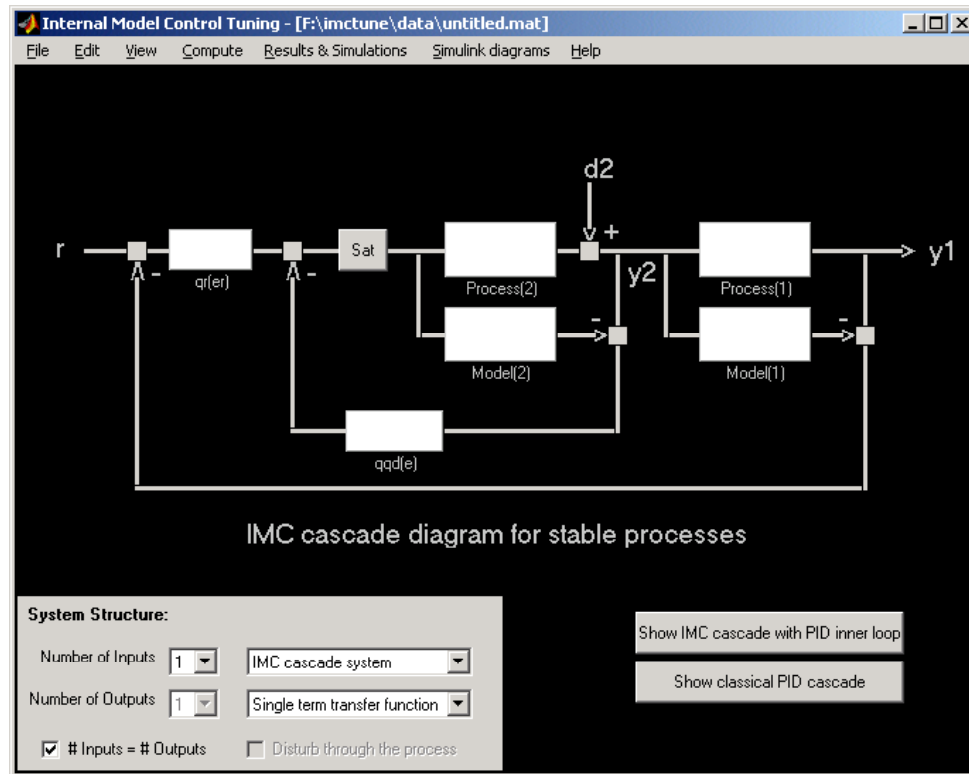
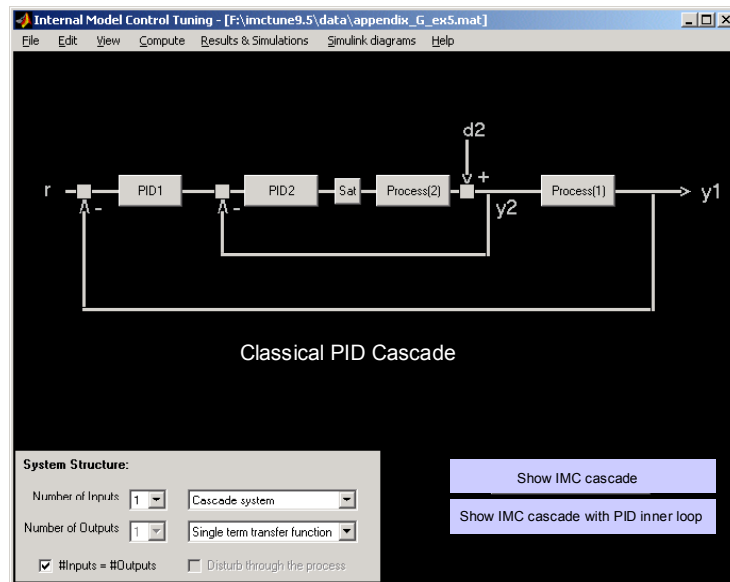
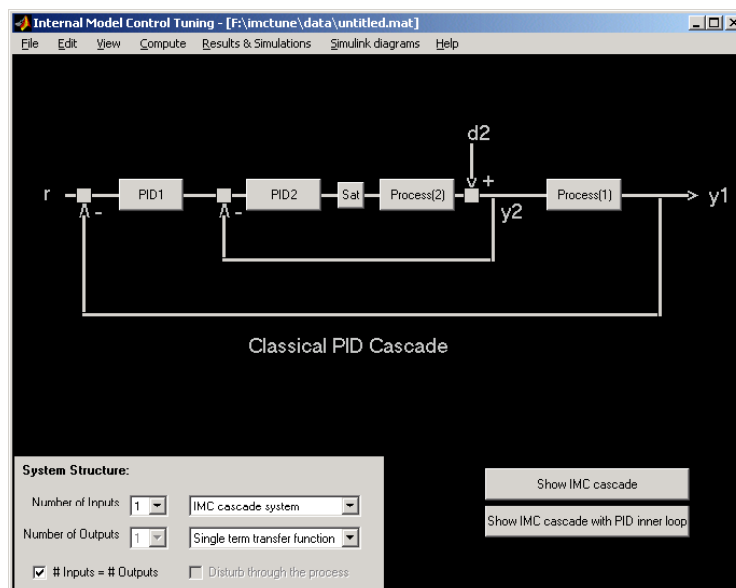

Figure G.18 Cascade control system primary interface.
Figure G.19 IMC cascade with PID inner loop.
Figure G.20 Traditional PID cascade.
Figure G.18 shows the primary window for cascade control systems.
Cascade control system design and tuning starts with the IMC cascade structure shown in Figure G.18. Once the controllers $qq_d(s, \epsilon)$ and $q_r(s, \epsilon_r)$ have been designed and tuned, the user can select two other cascade configurations: (1) an IMC cascade with a PID inner loop as in Figure G.19 or (2) a classical PID cascade control system as in Figure G.20. Clicking on either of the *Show* buttons on the lower right of the primary interface brings up the diagrams in Figures G.19 and G.20. However, neither of these diagrams is active until the computations under the compute menu are activated as described in the next section.
- IMC controller with PID inner loop: Converts the IMC cascade of Figure G.18 to the diagram in Figure G.19. Clicking on the controller icons shows their transfer functions.
- Classical PID cascade: Converts the IMC cascade of Figure G.18 to the classical cascade structure of Figure G.20. Clicking on the controller icons shows their transfer functions.
- Frequency response: Computes the frequency response of the transfer functions (1) between the setpoint r and the primary output y_1 , and (2) from the disturbance d_2 and the output of the inner loop y_2 , with the outer loop open.